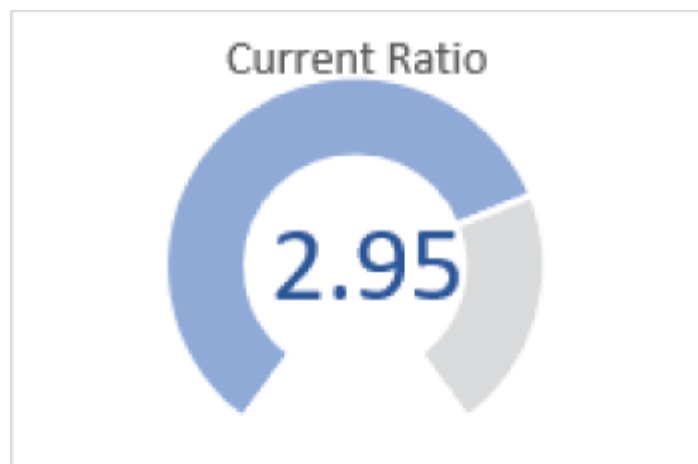

Figure 2.56: The Current Ratio gauge chart
9. Select the data label and move and resize it so that the data label is in the center of the gauge. Change the font size to **24** and the font color to dark blue. The final gauge chart is shown in Figure 2.56.